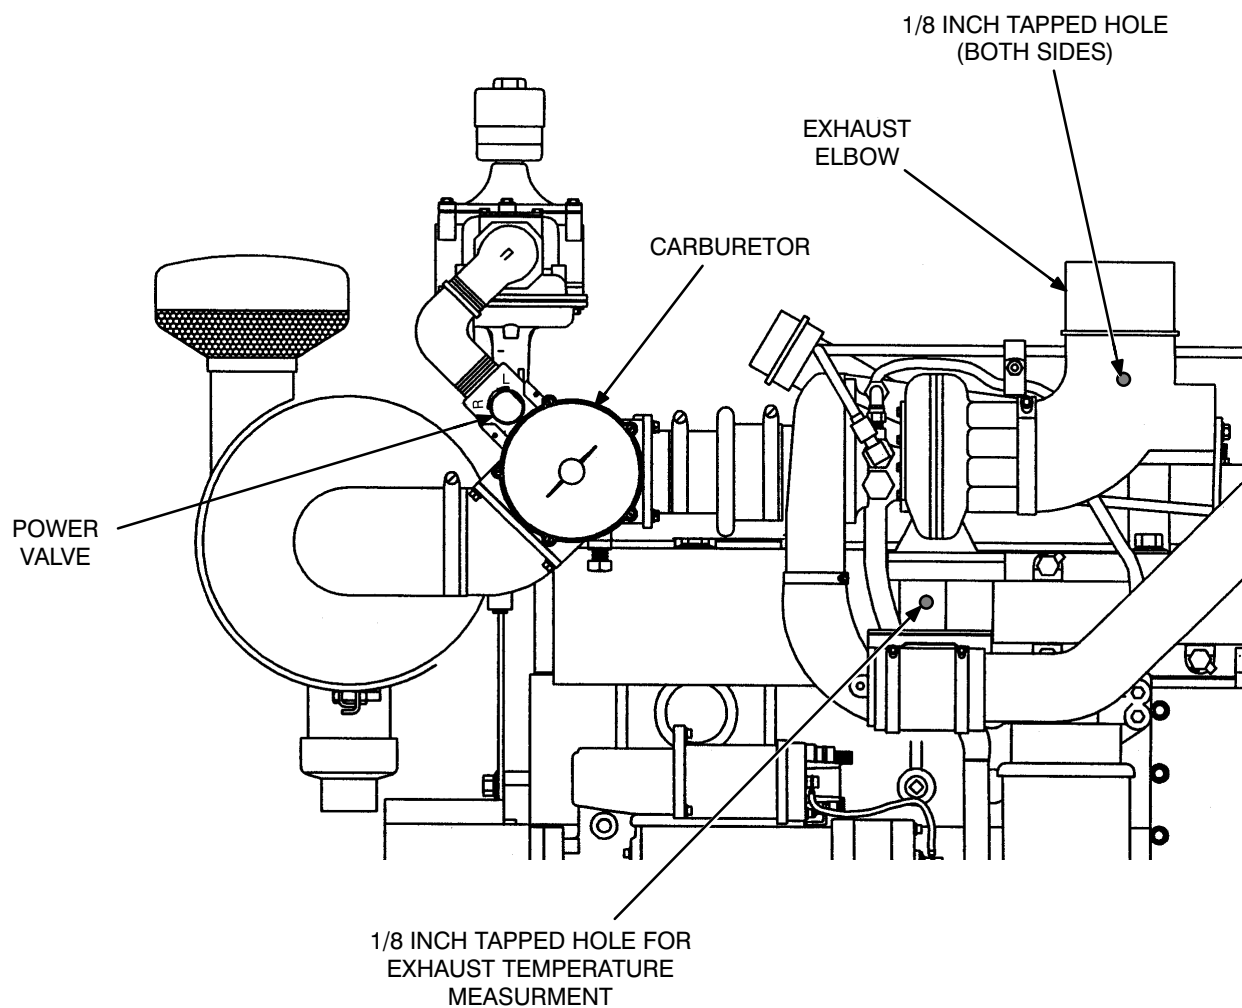

FIGURE 7-3. POWER VALVE ADJUSTMENT AND TEST POINT LOCATIONS
The power valve (Figure 7-3) is at the gas inlet to the carburetor. Near the power valve are markings indicating either rich "R" or lean "L" with 5 lines between the two markings.
2. Install a pyrometer in the 1/8 inch pipe tapped hole of the exhaust manifold located ahead of the turbo charger (Figure 7-3).
- B. Turn the course adjustment valve (Figure 7-3) until an approximate reading of 5% is obtained.